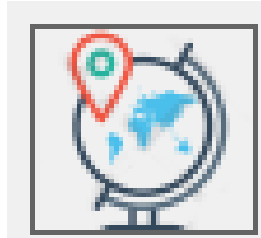

Figure 10.2
10.2. Click the button "Set the origin G92" to set the origin position (i.e., the lower left position of the pattern outline), as shown in figure 10.2.